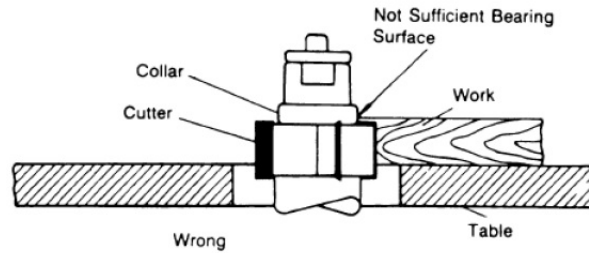

Fig. 21: Milling with collars without sufficient starting surface
- A portion of the work's edge must remain untouched by the cutter so that the collar will have sufficient bearing surface. See figure 21 for an example of insufficient bearing surface.